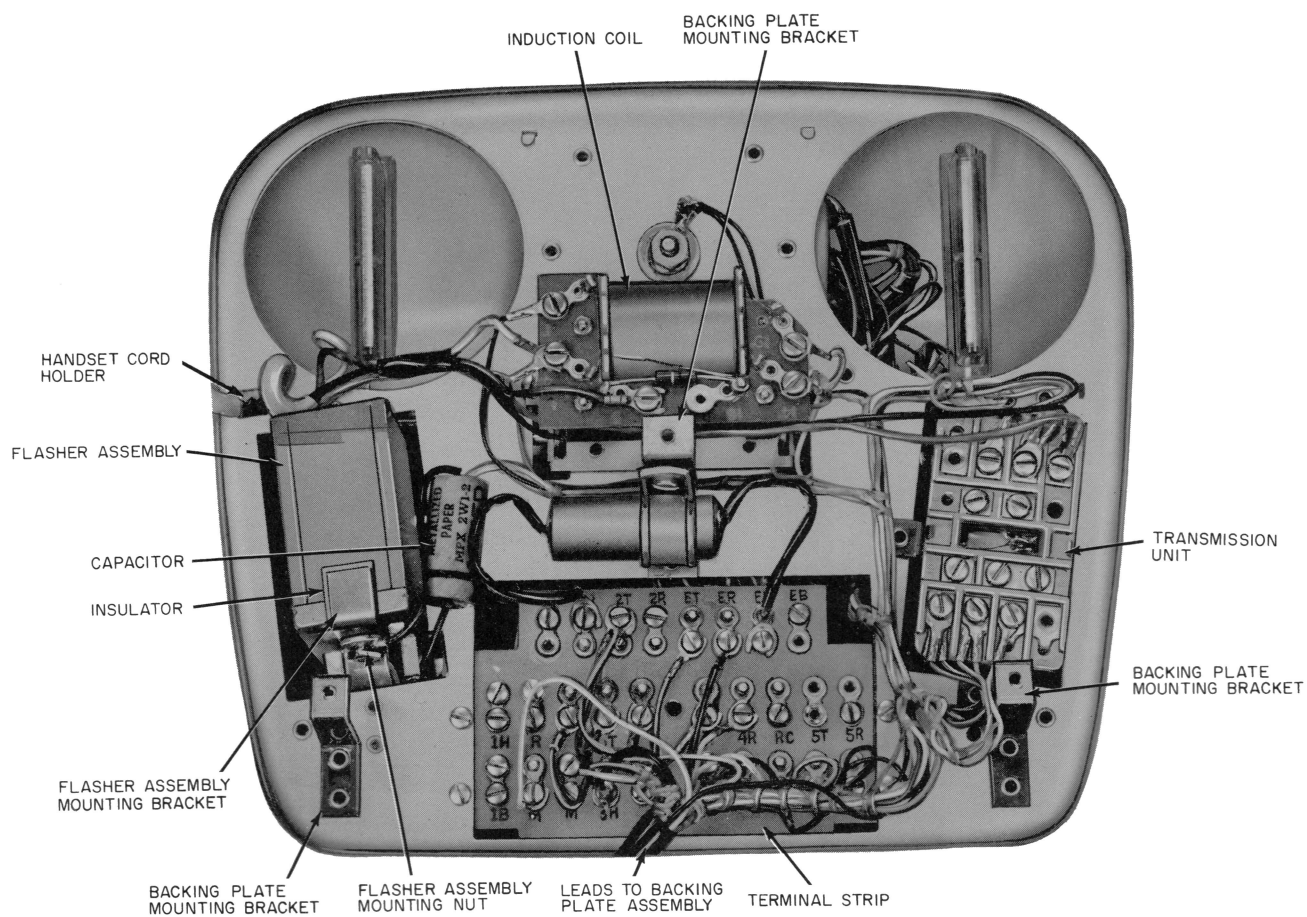

Figure 7. Main unit assembly with the upper housing and backing plate removed.
3.3 To examine dial action, first remove the upper housing as described in section 3.1. When the upper housing is removed, the backing plate (with dial, switch button, microphone, and speaker volume control attached to it as in figure 6) is easily accessible. The three flat-head backing plate mounting screws (figure 6) must be removed. Then lift the backing plate from its mounting brackets (figure 7) and turn it over to examine the dial action. Do not disconnect the dial leads unless the dial must be replaced.
transmission unit (figure 7) terminal No. 3. Then disconnect the yellow wire from induction coil (figure 7) terminal No. 4, and the red wire from induction coil terminal No. 5.
Release the handset cord holder from the Speakerphone mounting plate (figure 7) and pull out the old cord. The new cord can now be connected.
3.8 To remove the flasher assembly (figure 7) remove the upper housing of the main unit assembly as described in section 3.1. Then remove the backing plate assembly as described in section 3.3. With a 5/16" spin-tight wrench remove the flasher assembly mounting nut shown in figure 7. When the mounting nut and its associated washers have been removed, lift the flasher assembly from its mounting bracket. An insulator (figure 7) which separates the flasher assembly from the mounting bracket will come out with the flasher assembly. Unsolder all the wires attached to the terminals of the flasher assembly.